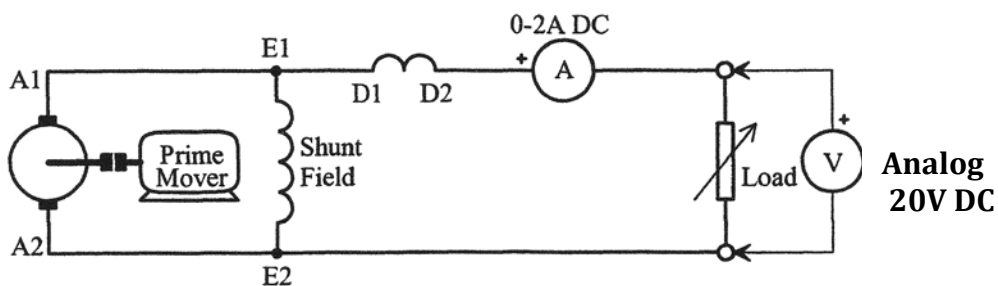

Figure 2
1. Connect the circuit as shown in figure 2. (**SHORT SHUNT**)